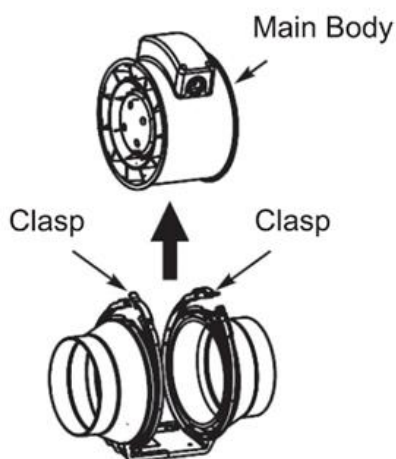

Fig. 8 – Remove main body
3. Remove the main body by unclipping the plastic clasps and lifting the main body out of the housing base. (Fig.8)